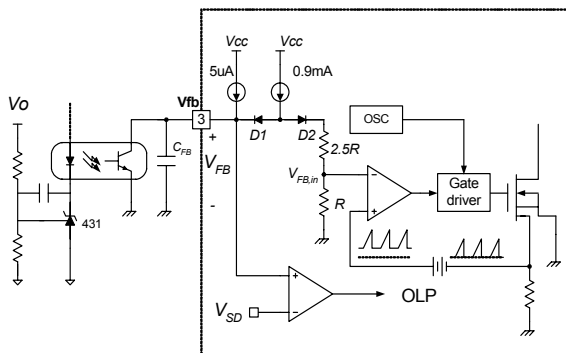

Figure 5. Pulse Width Modulation (PWM) Circuit
**2. Feedback Control** : The FSDx0365RNB employs current mode control, as shown in Figure 5. An opto-coupler (such as the H11A817A) and shunt regulator (such as the KA431) are typically used to implement the feedback network. Comparing the feedback voltage with the voltage across the Rsense resistor plus an offset voltage makes it possible to control the switching duty cycle. When the KA431 reference pin voltage exceeds the internal reference voltage of 2.5V, the optocoupler LED current increases, the feedback voltage Vfb is pulled down and it reduces the duty cycle. This event typically happens when the input voltage is increased or the output load is decreased.
**4.3 Over Voltage Protection (OVP) :** In the event of a malfunction in the secondary side feedback circuit, or an open feedback loop caused by a soldering defect, the current through the opto-coupler transistor becomes almost zero (refer to Figure 5). Then, VFB climbs up in a similar manner to the over load situation, forcing the preset maximum current to be supplied to the SMPS until the over load protection is activated. Because excess energy is provided to the output, the output voltage may exceed the rated voltage before the over load protection is activated, resulting in the breakdown of the devices in the secondary side. In order to prevent this situation, an over voltage protection (OVP) circuit is employed. In general, Vcc is proportional to the output voltage and the FPS uses Vcc instead of directly monitoring the output voltage. If Vcc exceeds 19V, OVP circuit is activated resulting in termination of the switching operation. In order to avoid undesired activation of OVP during normal operation, Vcc should be properly designed to be below 19V.